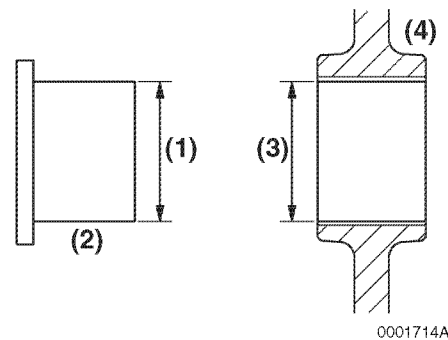

Figure 6-124
1. Measure the outside diameter (**Figure 6-124, (1)**) of the idler gear shaft (**Figure 6-124, (2)**). See *Idler Gear Shaft and Bushing on page 6-13 for specifications*.
2. Measure the inside diameter (**Figure 6-124, (3)**) of the idler gear bushing (**Figure 6-124, (4)**). See *Idler Gear Shaft and Bushing on page 6-13 for specifications*.